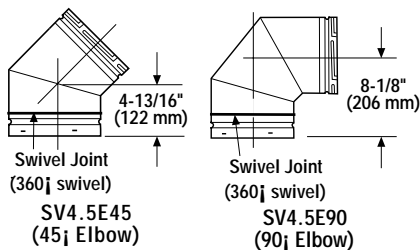

Figure 18
H. Change vent direction to horizontal/inclined run - At transition from or to a horizontal/inclined run, install the SV4.5E45 and SV4.5E90 elbows in the same manner as the straight vent sections. The elbows feature a twist section to allow them to be routed about the center axis of their initial collar section to align with the required direction of the next vent run element. **Twist elbow sections in a clockwise direction only so as to avoid the possibility of unlocking any of the previously connected vent sections.** See **Figure 18**.
Analyze the vent routing and determine the types and quantities of sections required 4-1/2" (114 mm), 10-1/2" (267 mm), 22-1/2" (572 mm), 34-1/2" (876 mm) and 46-1/2" (1181 mm) net section lengths are available. Plan the vent lengths so that a joint does not occur at the intersection of ceiling or roof joists. Make allowances for elbows as indicated in Figure 18 on page 13.
J. Change vent direction - At transition from or to a horizontal/inclined run, install the SV4.5E45 and SV4.5E90 elbows in the same manner as the straight vent sections. The elbows feature a twist section to allow them to be routed about the center axis of their initial collar section to align with the required direction of the next vent run element. **Twist elbow sections in a clockwise direction only so as to avoid the possibility of unlocking any of the previously connected vent sections.** See *Figure 18 on page 13*.